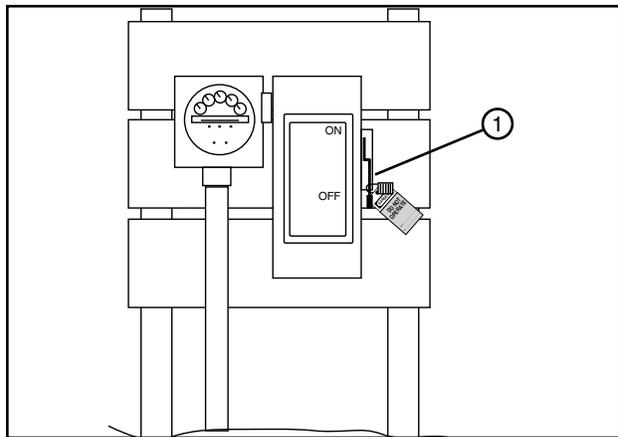

Figure 32-2 1. Power Service Disconnect
2. Turn OFF and lock the electrical service disconnect at each tow location. See figure 32-2.